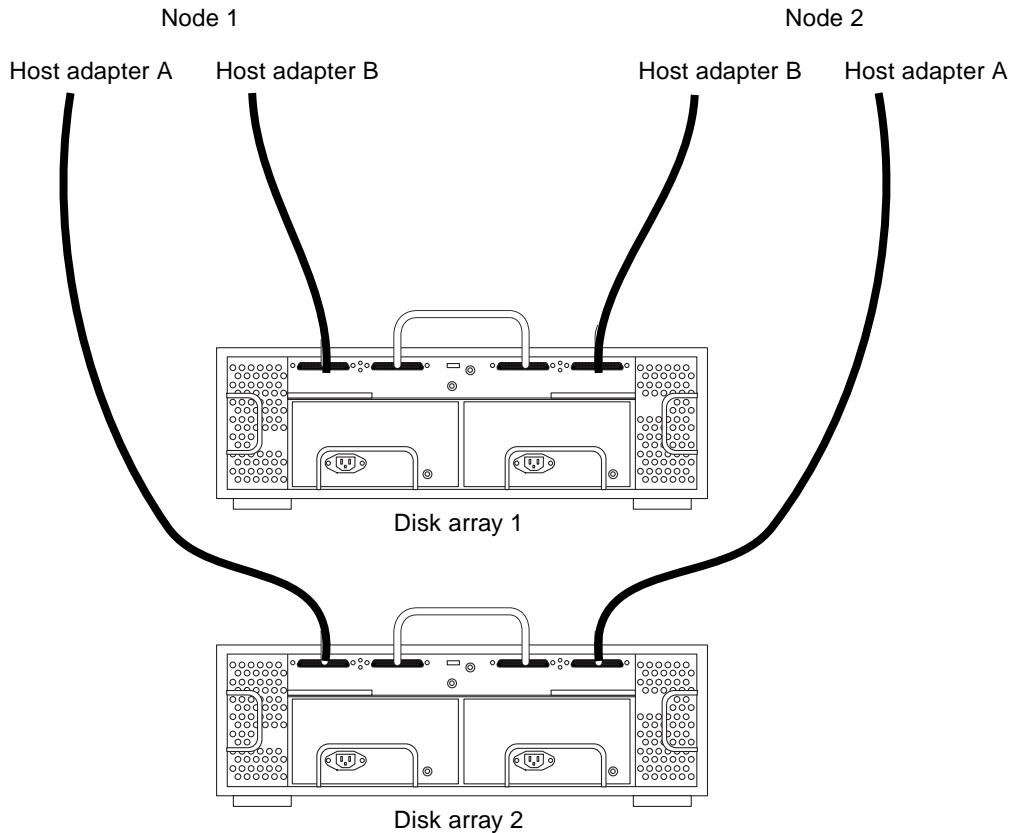

FIGURE 5-1 Example of a StorEdge D1000 Disk Array Mirrored Pair
3. Connect the cables to the StorEdge D1000 disk arrays, as shown in FIGURE 5-1.